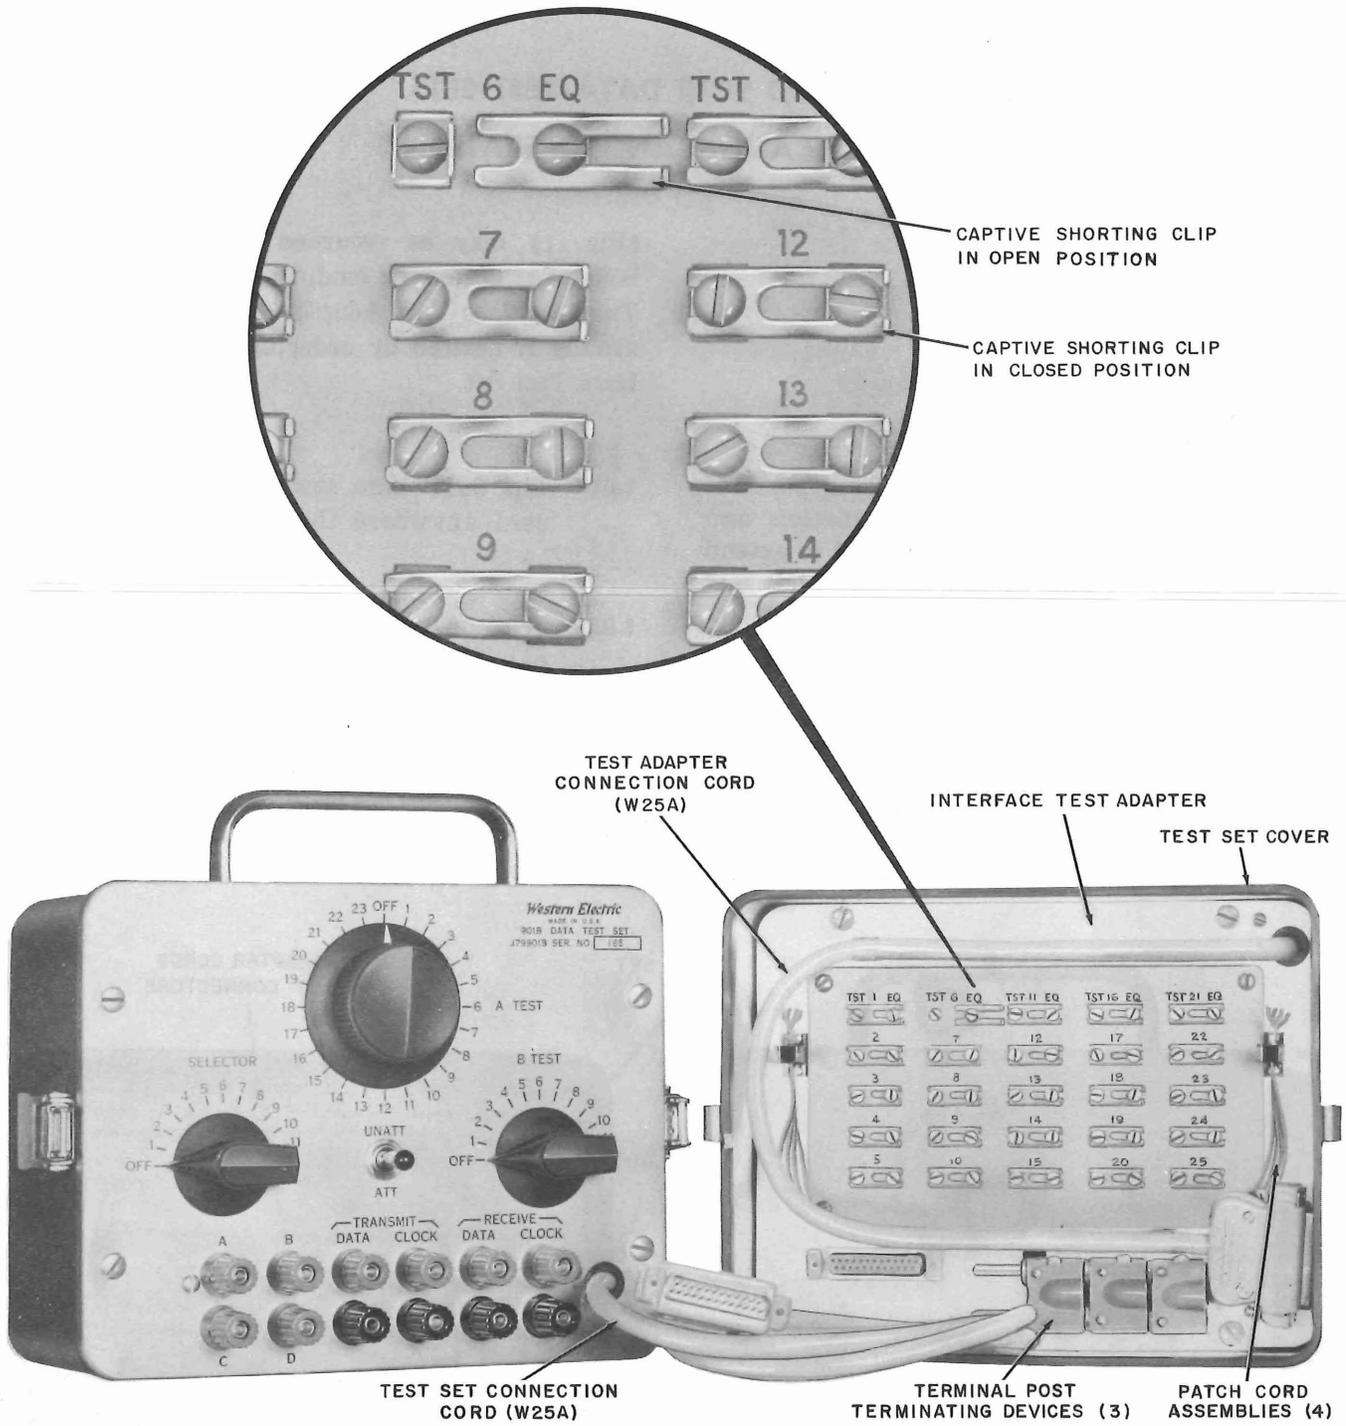

Fig. 2 — 901B Data Test Set
1.04 The 901B data test set (Fig. 2) can be used anywhere that a 901A is specified.
**2.06** The Interface Test Adapter (Fig. 2) is furnished as part of the 901B data test set cover. The data test set and cover can be ordered separately or combined as one unit.
**3.02** Three terminal post terminating devices (Fig. 2) provide a 200-ohm short for certain data set tests.
**3.03** Use of the captive shorting clips (Fig. 2) permits isolating or bridging interface leads as required.
**3.04** Four patch cord assemblies (Fig. 2) are furnished for cross connecting the required interface leads.